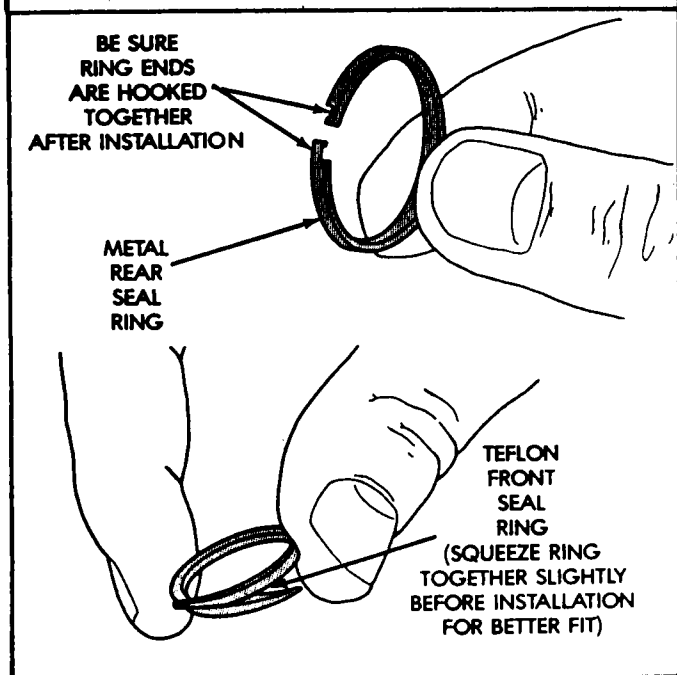

Figure 69
12. Install one steel sealing ring and one scarf-cut teflon seal ring, as shown in Figure 69.